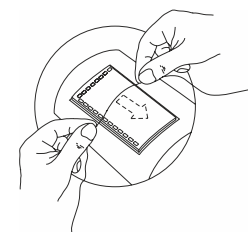

Fig. 6
10. *Place the gel on the Peel-IT™ and detach it from the plastic backing with nylon string, for faster staining or blotting *(Fig. 6)*
10. Nylon string is provided in every box of gels, Instead of Peel-IT™ (Fig. 6), any 1 or 2 l glass bottle can be used. Bottle need to be fixed to stay in place.